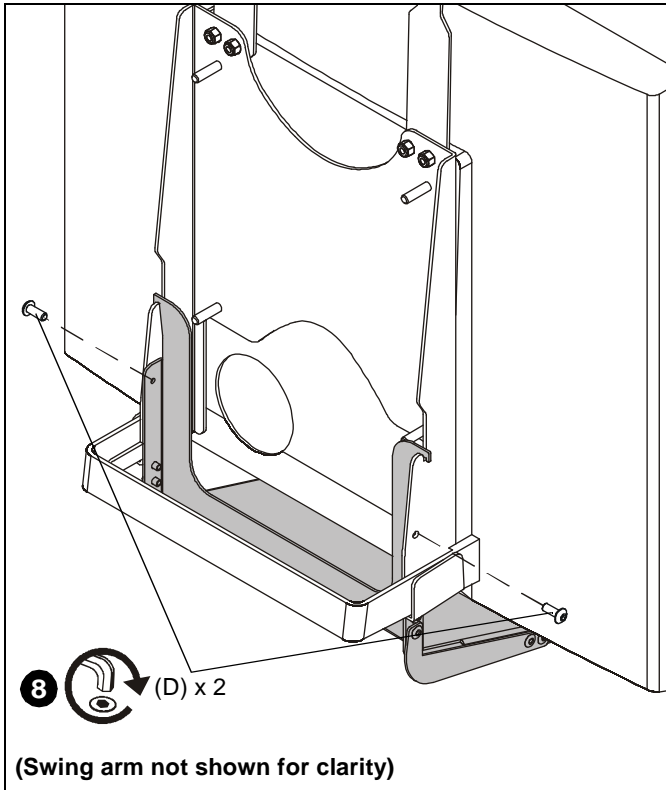

Figure 5
8. Fasten shelf assembly to interface bracket using two 10-24 x 1/2" buttonhead screws (D). (See Figure 5)